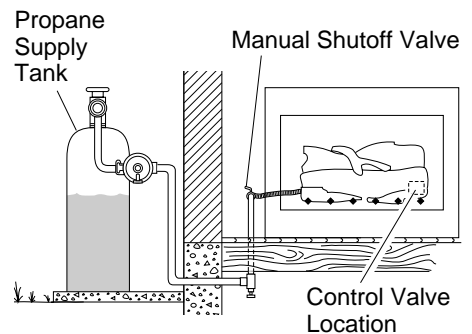

Figure 16 - Checking Gas Joints
3. Check all joints from propane supply tank to manual shutoff valve (see Figure 16). Apply mixture of liquid soap and water to gas joints. Bubbles forming show a leak.
4. Check all joints from manual shutoff valve to gas control (see Figure 16). Apply mixture of liquid soap and water to gas joints. Bubbles forming show a leak.